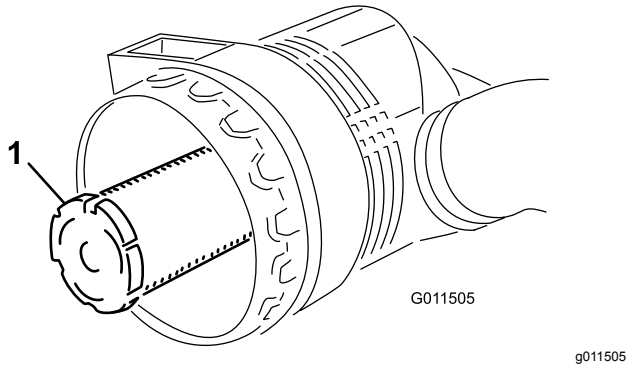

Figure 72
body. Do not use a damaged element. **Do not** remove the safety filter (Figure 72).
**Important:** Never attempt to clean the safety filter (Figure 72). Replace the safety filter with a new one after every three primary filter services.